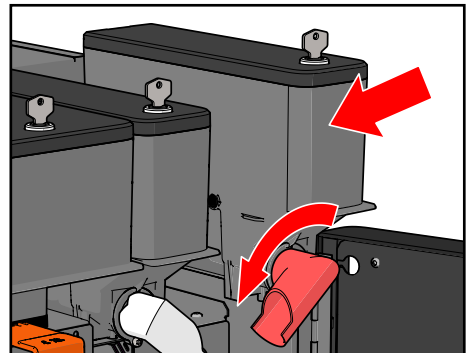

Figure 63.
4. Replace the canisters in the machine and turn the spout downward (see Figure 63).